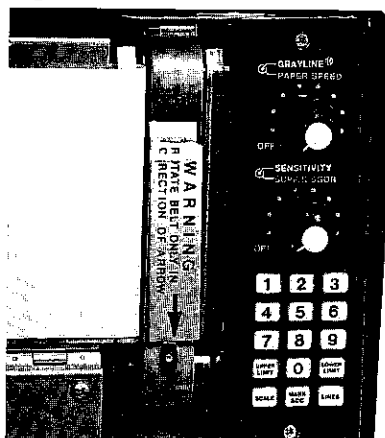

Figure 26
3. Move the stylus belt DOWN, (on the right side of the viewing area), to position the marking stylus on the back side of the platen. NEVER move the belt up — the stylus may be damaged. (see Figure 26)